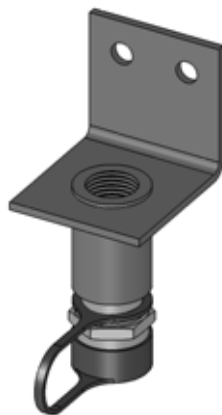

Figure 4-12. Nozzle and Bracket Assembly
1. Thread the nozzles into the nozzle bracket, as shown in Figure 4-12.
Figure 4-12 shows the dry chemical nozzle and bracket assembly.